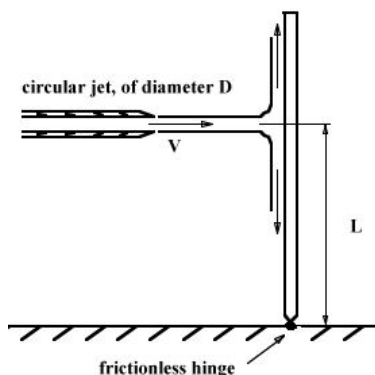

Figure P3.57
3.57 A circular water jet of diameter D , velocity V , and density ρ impinges on a vertical plate supported by a frictionless hinge a distance L above the hinge, as shown in Figure P3.57. Find the direction and magnitude of the moment that needs to be exerted around the hinge to maintain the plate in a vertical position. Note that $D \ll L$.